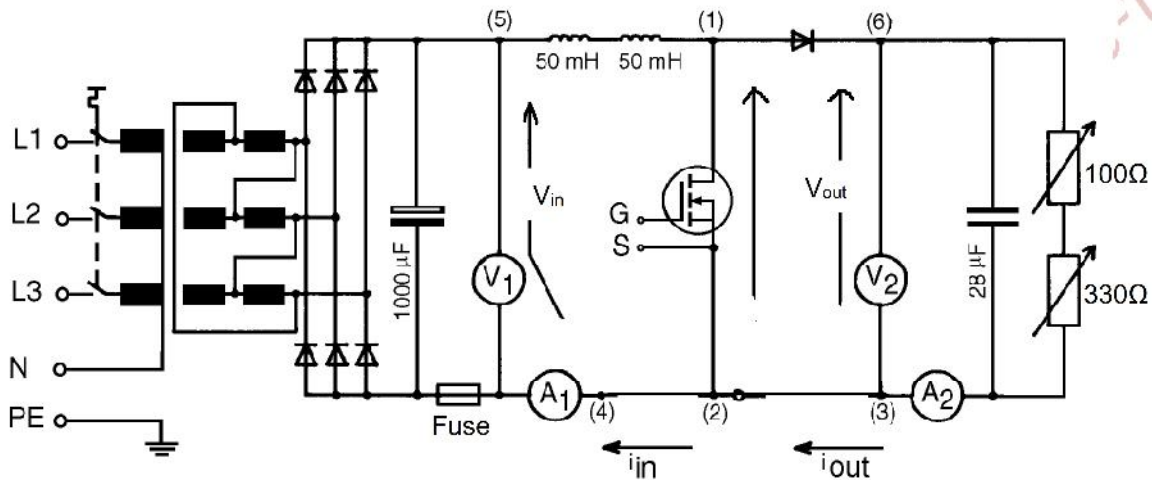

Figure 6.2 The equivalent power circuit of a Step-up (Boost) converter implementing a MOSFET
- The equivalent power circuit of the Step-up (Boost) converter is shown in Figure 6.2. It implements a power MOSFET as a switch.
- A fuse (Fuse, Three-Fold, Super Fast Cat. No. 735 18) is connected at the lower side of the input to the Boost; between the Rectifier capacitor and the Boost, as shown in the equivalent power circuit of Figure 6.2.
- The MOSFET receives the control pulse S_1 from the Control Unit for controlling; S_{1+} to the Gate terminal (G), and S_{1-} to the Source terminal (S)